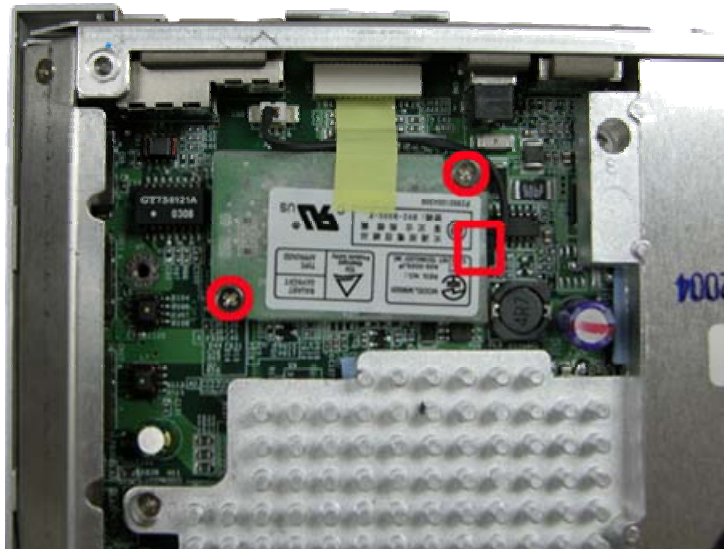

Fig. 23 MDC Modem
- Release screws and disconnect cable on MCD Modem as shown in Fig. 23